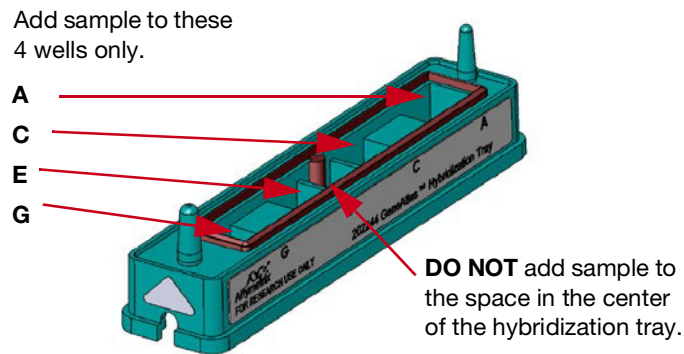

Figure 8 Location of the sample wells on the hybridization tray.
- b. Apply the 120 μL of pre-heated hybridization cocktail (Step 5d) to the middle of the appropriate wells of a new clean hybridization tray (Figure 8).